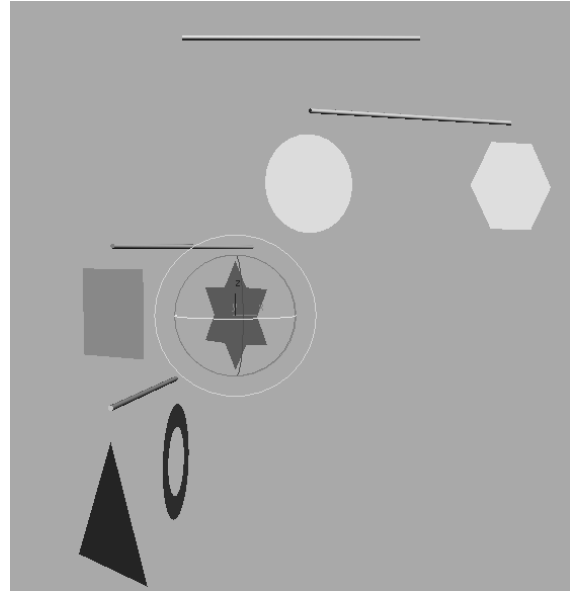

Figure 8.5
4. Select the triangle and repeat Steps 2 and 3 to assign a TCB Rotation controller to the triangle. Do the same for the star. Figure 8.5 shows the proper rotations of the shapes and the bars—but looks are deceiving. We're not done yet!